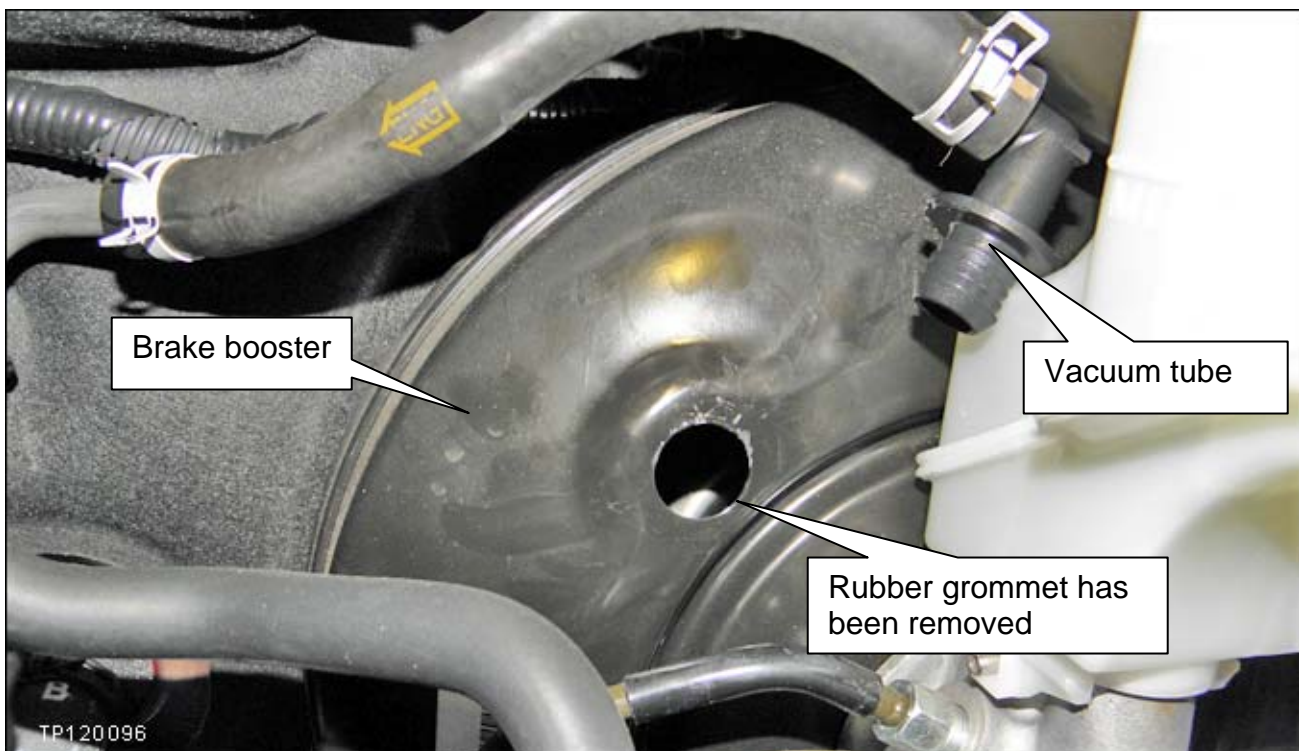

Figure 2
3. Carefully pull the vacuum tube from the brake booster (see Figure 2).
4. Remove the rubber grommet from the brake booster (see Figure 2).